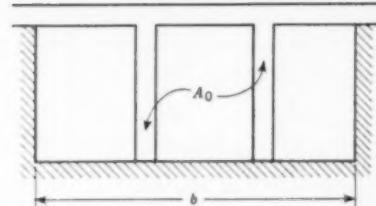
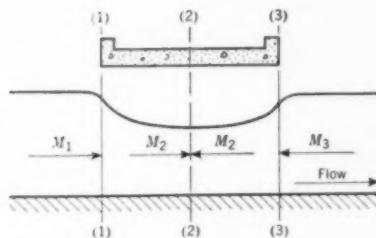

FIG. 1. Cross section of channel normal to flow immediately above bridge piers is shown by diagram.
FIG. 2. Longitudinal section along center line of channel indicates three locations: (1) immediately upstream, (2) under bridge, and (3) immediately downstream.
A cross section of the channel normal to the flow immediately above the bridge piers is shown in Fig. 1, and a longitudinal section along the center line of the channel in Fig. 2. Ordinarily the water surface elevations are required at three locations: (1) immediately upstream, (2) under the bridge, and (3) immediately downstream.